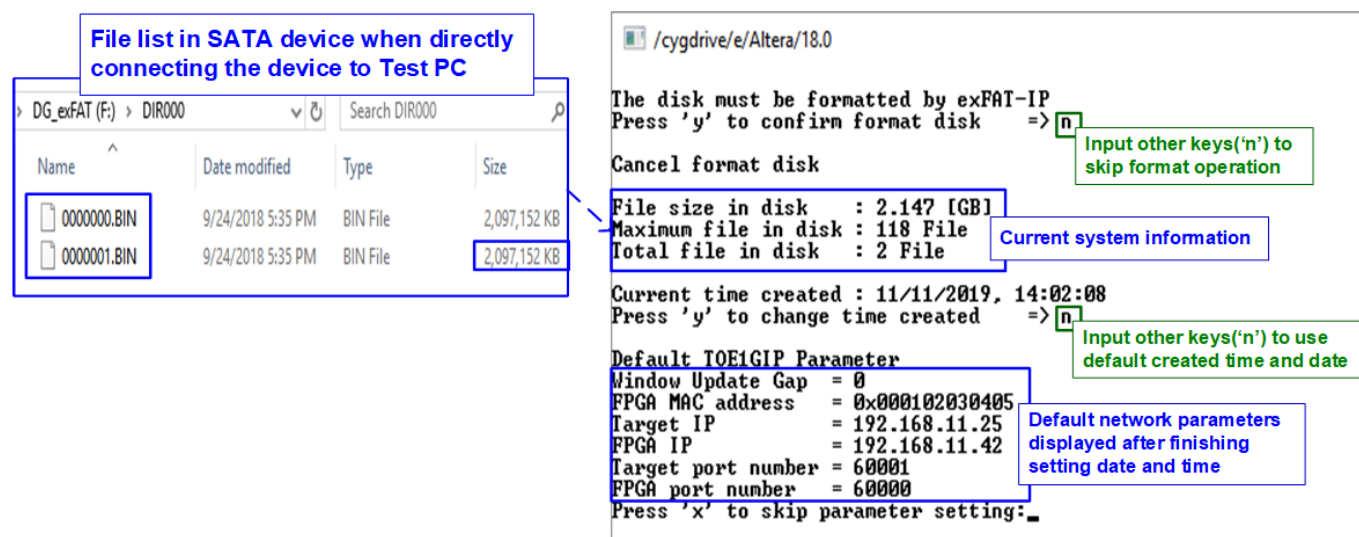

Figure 3-8 Initialization without format operation and time created updating
- After finishing date and time setting, default TOE1GIP parameter is displayed on the console. Figure 3-8 shows the example when the system is booted with some available files in the SATA device.